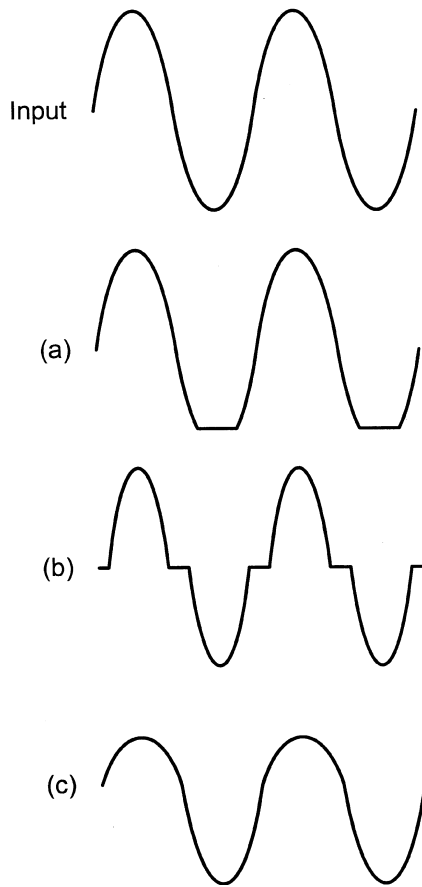

Figure A2.28
70. Identify each of the forms of distortion shown in Fig. A2.28. [Page 240]